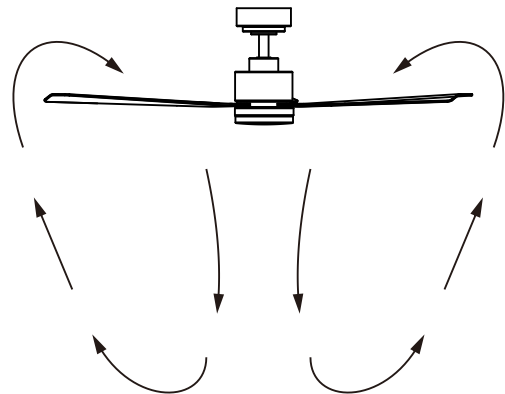

Figure 27
- Warm weather-(Forward) A downward airflow creates a cooling effect as shown in (Fig.27) This allows you to set your air conditioner on a warmer setting without affecting your comfort.